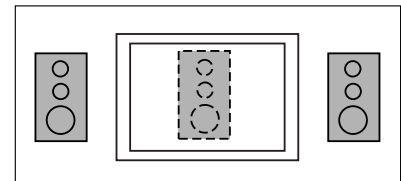

Figure 2.
**SAM3VA:** If you have purchased the vertical channel speaker (model SAM3VA) for the center position, be sure to place it vertically during installation in order to take advantage of its sound-dispersion characteristics. If you mount it horizontally, it will not provide the correct dispersion pattern. If the speaker is being used with a perforated projection screen, it should be mounted behind the center of the screen (see Figure 2). If a nonperforated projection screen, plasma display or other fixed video device is being used in the installation, the preferred center speaker is the model SAM3HA (below).